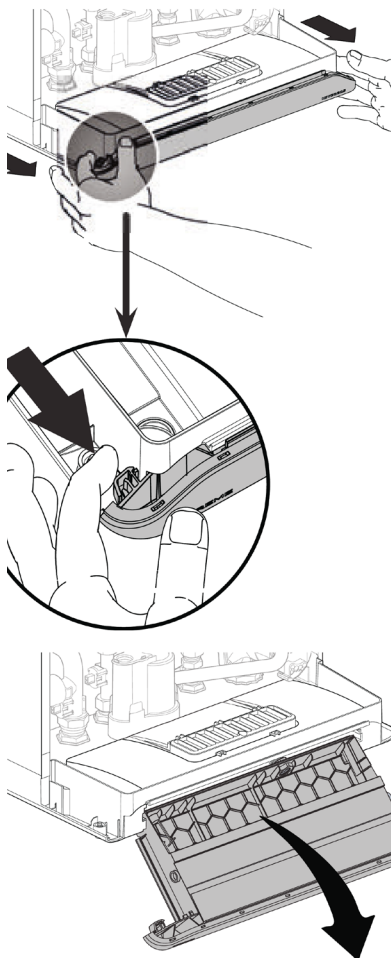

Figure 34: Pulling out the tray
1. Pull out the controller as shown in Figure 34.